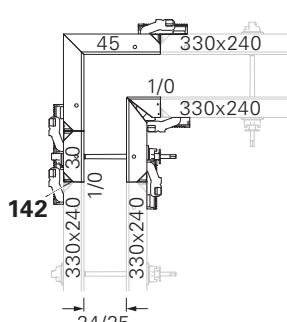

Fig. C1.04
- Fig. C1.04 + C1.05a + C1.05b